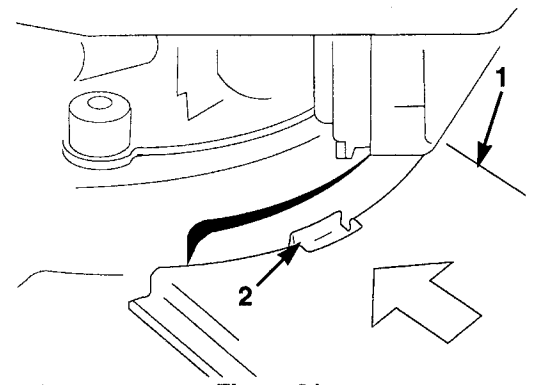

Figure 31
6. Install the transmission cover (Fig. 31), using the screw removed in step one. Make sure the tab on the transmission cover goes into the opening in the mower housing (Fig. 31).